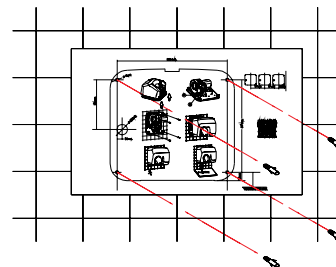

Fig. 6
- 1.- Drill four Ø 8 mm (Ø 0.31") holes using the supplied template. Clean up the holes once they have been made. Insert the four plugs until they are flush with the surface (see figure 6).